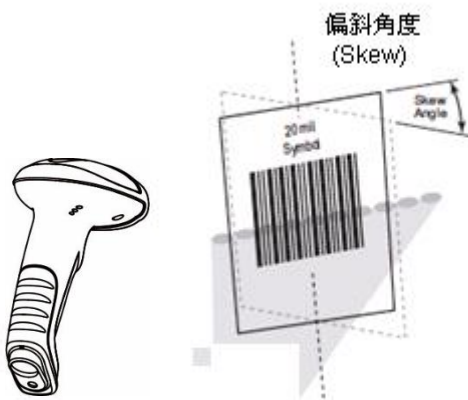

Fig. 1-14
- ◇ Skew: $\pm 75^\circ$, 0° Roll and 0° Pitch (Fig. 1-14)